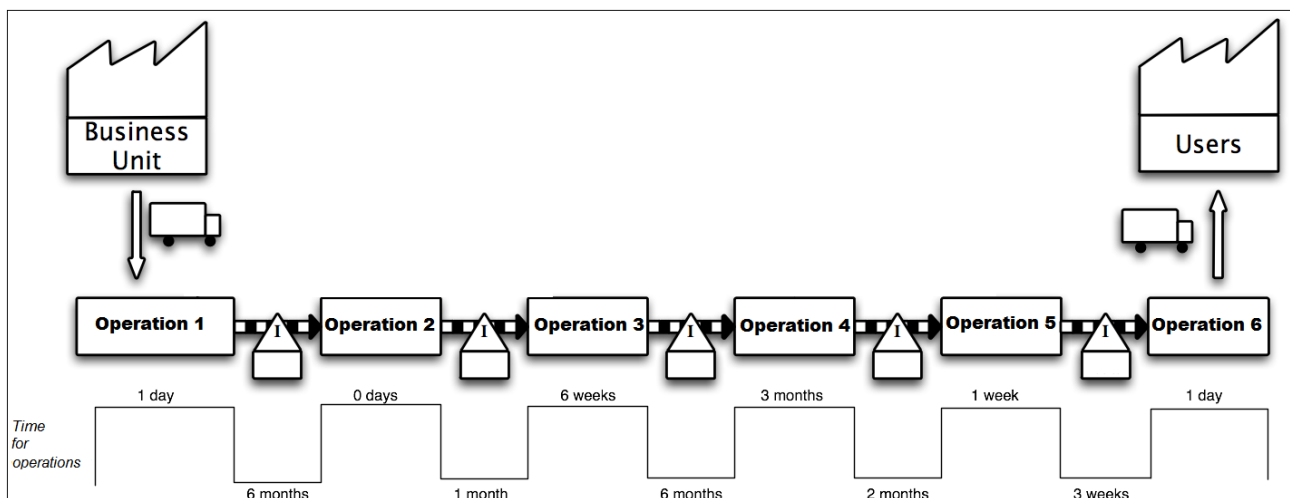

Fig. 1 The example of a Value stream map
4. Draw a future state value stream map (fig. 1);